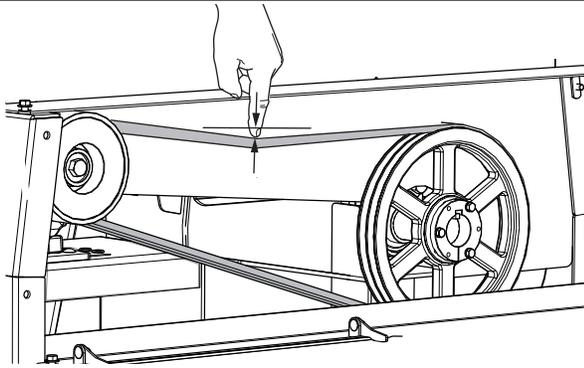

Figure 28—Check the drive belt tension
1. Press on the top centre of the rotor drive belt and measure the distance it moves. See *Figure 28 on page 53*.